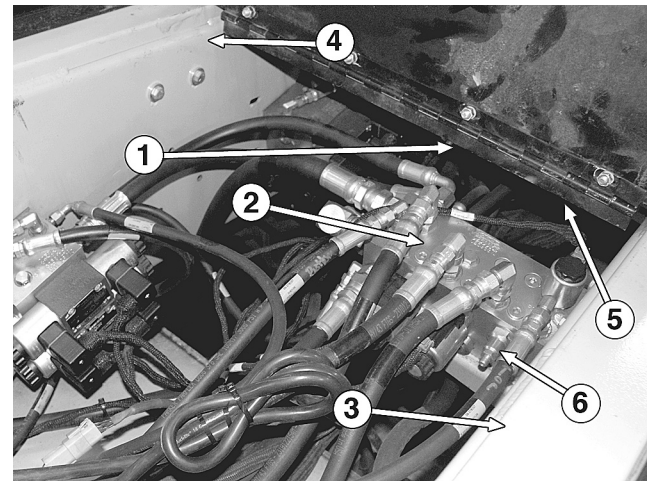

Figure 31. Spreadroll Speed Adjustment
2) To adjust the speed, loosen the jam wheel on the spreadroll flow control valve (Fig 30) located between the conveyors (Fig 31). Turn the adjusting knob clockwise to decrease the speed of the spreadroll, or counterclockwise to increase the speed. Retighten the jam wheel.
2) To adjust the speed, loosen the jam wheel on the spreadroll flow control valve (Fig 30) located between the conveyors (Fig 31). Turn the adjuster knob clockwise to decrease the speed of the spreadroll, or counterclockwise to increase the speed.